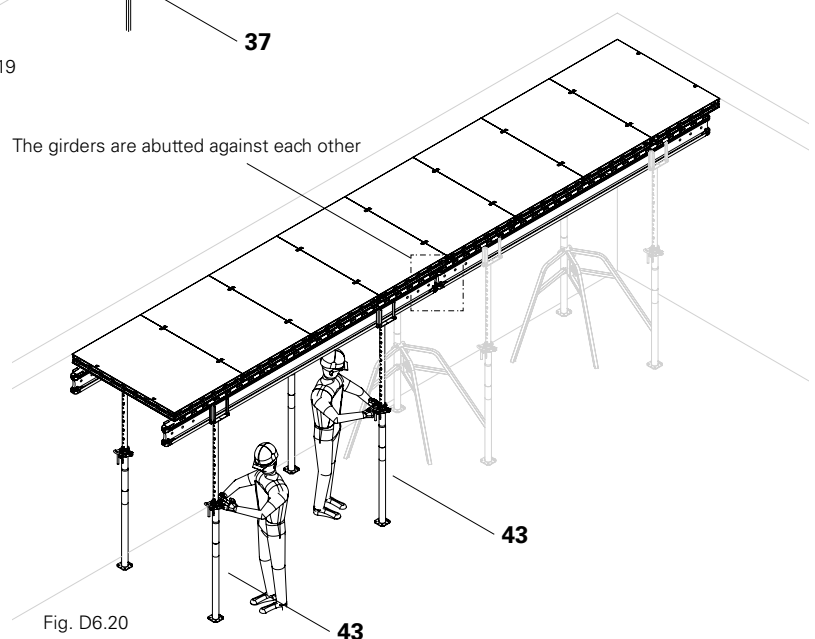

Fig. D6.20
11. Place the second girder (**35**) and the slab props (**43**) that support it beneath the edge of the panels. Adjust the slab props (**43**) to the correct height. The distance between the first and second row of props is 1.20 m. The second girder supports the next row of panels. (Fig. D6.20)